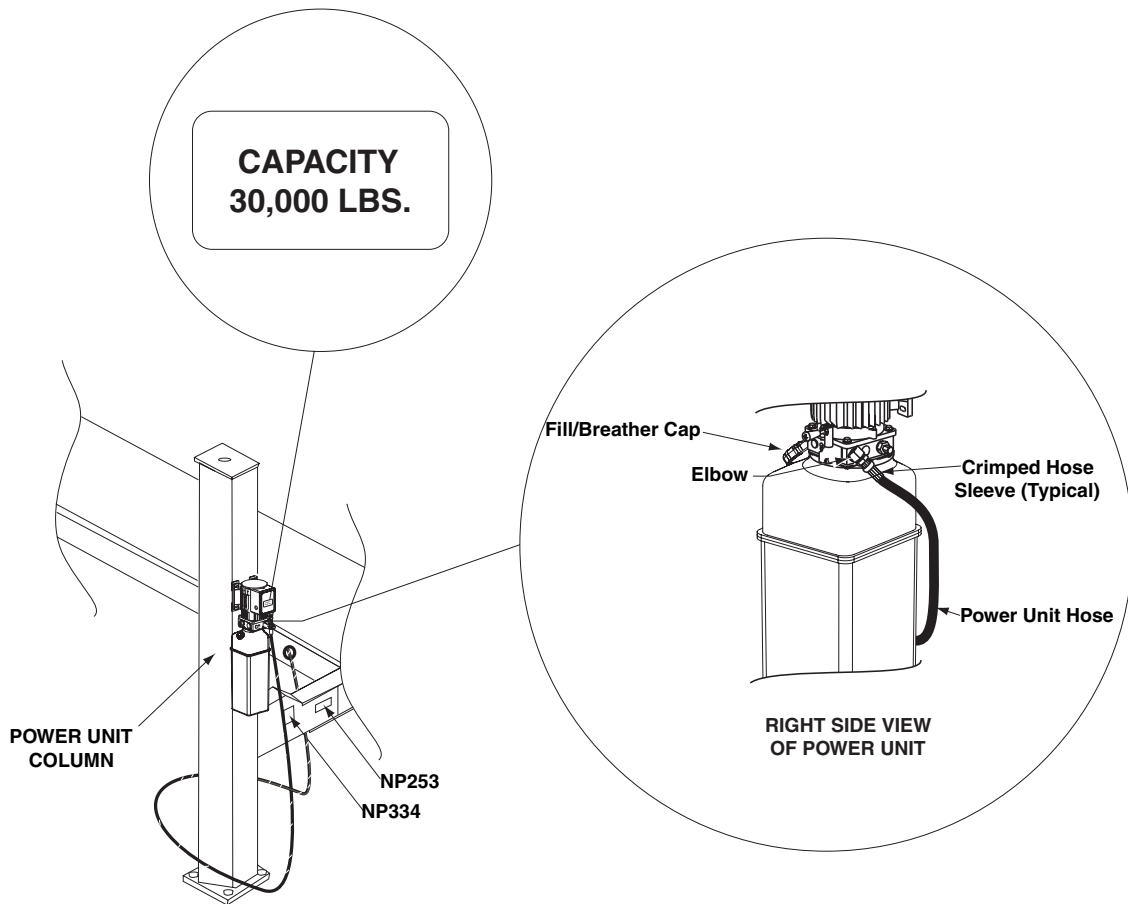

Fig. 17
- D. Run hydraulic hose from runway through slot in side of runway to power unit output port, Fig. 17. DO NOT use Teflon tape on hydraulic hose connections. Install and hand tighten elbow to pump until O-ring is seated and elbow should be oriented downward at approximately 45° , Fig. 17. Tighten locknut to 35-40 ft. lbs.
- E. Install enclosed capacity label on power unit, Fig. 17.
CAUTION If fill/breather cap, Fig. 17, is lost or broken, order replacement. DO NOT substitute with a solid plug.
- A. System capacity is twenty-two (22) quarts. Use Dexron III ATF. Remove fill/breather cap and fill vent screw, Fig. 17.